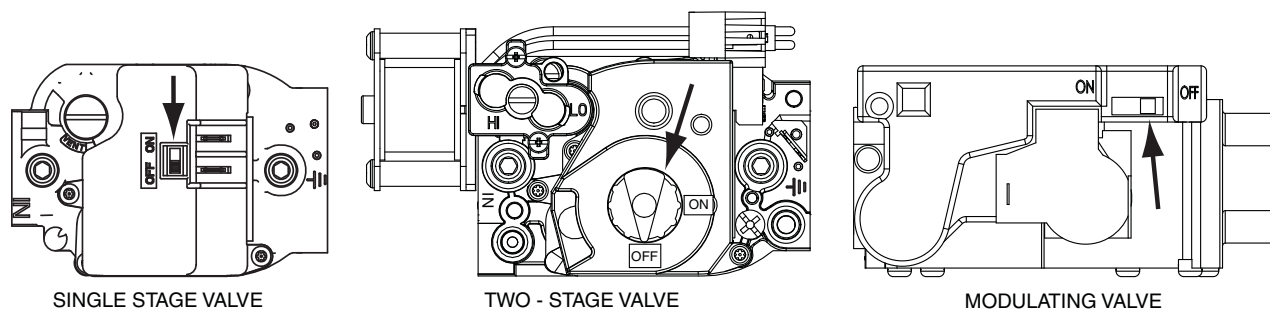

Figure 2. Gas Valves
7. Set the gas valve switch or knob to the OFF position. See Figure 2 for gas valve switch or knob location.